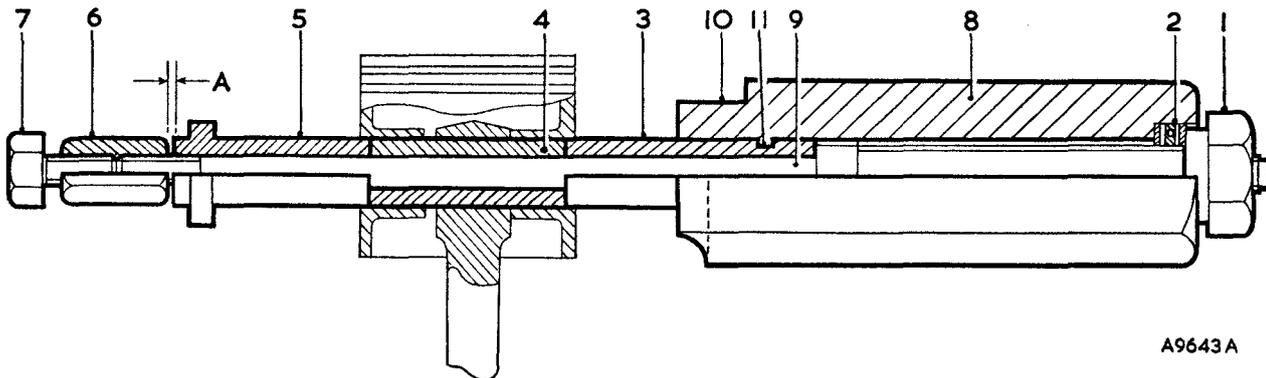

Fig. Aa.4
- (4) Retain the hexagonal body (8) of Service tool 18G 1002 in a vice with the cut-out (10) uppermost (see Fig. Aa.4).
- (5) Screw the large nut (1) back until it is flush with the end of the centre screw (9), push the screw and nut forward until the nut contacts the thrust race (2).
- (6) Slide the parallel sleeve (3), short length diameter first, on to the centre screw up to the shoulder.
- (7) Place the piston assembly on the centre screw, then fit the remove/replacer bush (5), longest diameter portion towards the piston.
- (8) Screw the stop nut (6) onto the centre screw and adjust it until there is approximately 1/32 in. (.8 mm.) end-play in the whole assembly, ensuring that the parallel sleeve and the remover/replacer bush are correctly located in the gudgeon pin bores on both sides of the piston.
- (9) Lock the stop nut securely in position with the lock screw (7).
- (10) Check that the curved face of the body is clean, then slide the piston assembly carefully into position against the curved face. Check that the piston rings are over the cut-out in the tool body.
- (11) Screw the large nut (1) up to the thrust race (2).
- (12) Hold the lock screw (7), not the stop nut, with a spanner, and turn the large nut (1) until the gudgeon pin is withdrawn from the piston.